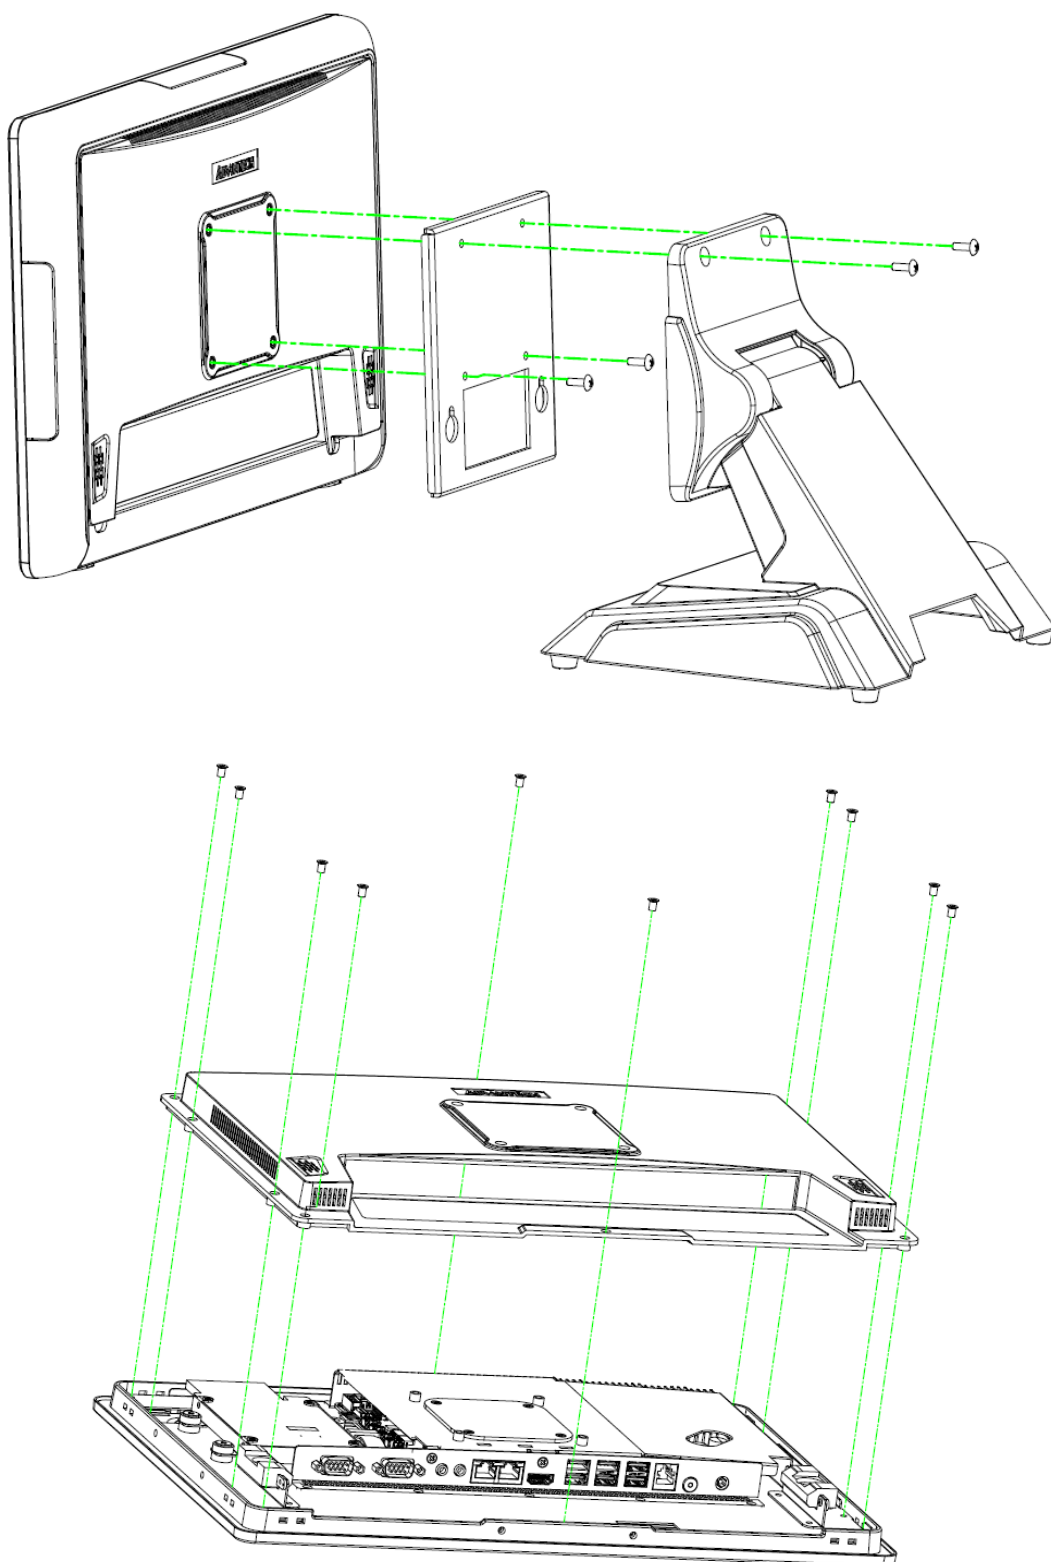

Figure 3.1 Primary 2.5" HDD installation
3. Place the HDD in the metal bracket, and fasten in place by tightening the bracket screws (see Figure 3.1).